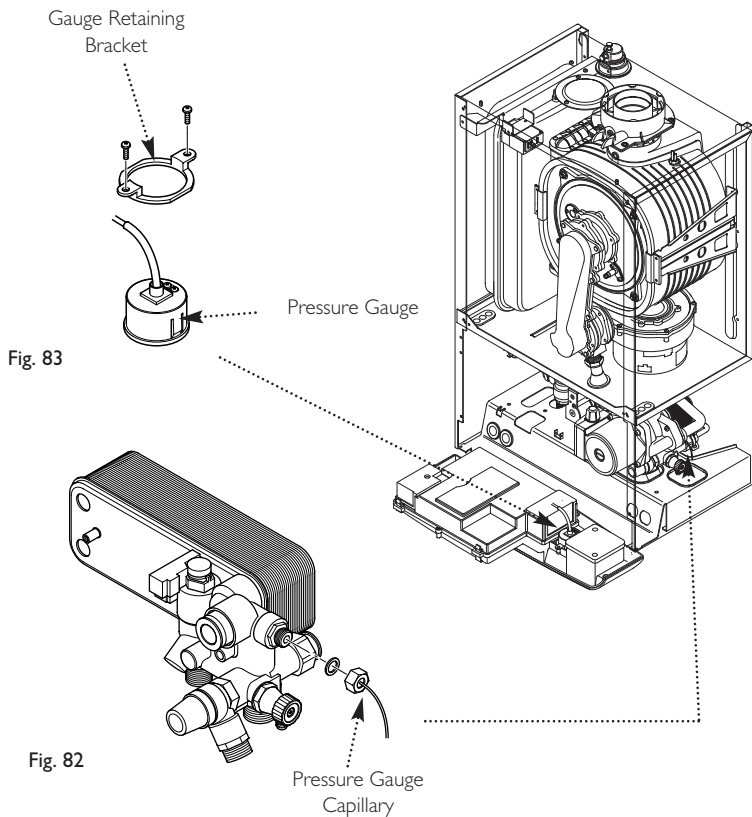

Fig. 82
14.16 Pressure Gauge (Figs. 82 & 83)